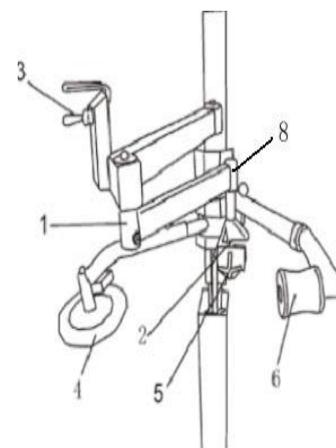
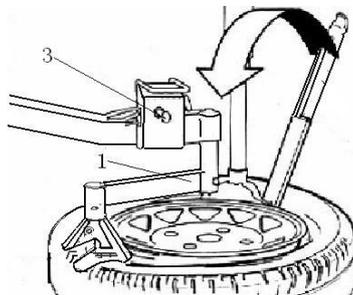

Fig 11
Fig 16
- 4) Install the tire pressing rotating arm 1, tire pressing head(upper) 2, rise-fall switch handle 3, tire lifting roller 4, tire pressing head(bottom) 5, tire pressing roller 6, tire pressing arm 8 separately on the help arm.(Fig 11)
**Fig 11** shows functional parts of the 007B device:
The rise-fall switch handle (3, **Fig 11**) is to adjust the tire pressing rotating arm (1, **Fig 11**) when mounting and demounting tires.
1) Lift the rise-fall switch handle(3, **Fig 11**) up, the tire pressing rotating arm (1, **Fig 11**) should rise. Down the rise-fall switch handle (3, **Fig 11**), the tire pressing rotating arm (1, **Fig 11**) should lower.
3) Operate the rise-fall switch handle (3, **Fig 11**) to adjust the tire pressing roller (6, **Fig 11**), make it get touch with the tire's arc to facilitate the mounting and demounting operations.
- c- Raise the auxiliary arm, mount the tire pressing head (upper) on the tire pressing arm (8 Fig 11) and rotate it to the opposite side of the mounting head. Press the tire with the switch handle to create enough space; hang the bead on the demount/mount head with the help of the lifting lever(Fig.16).